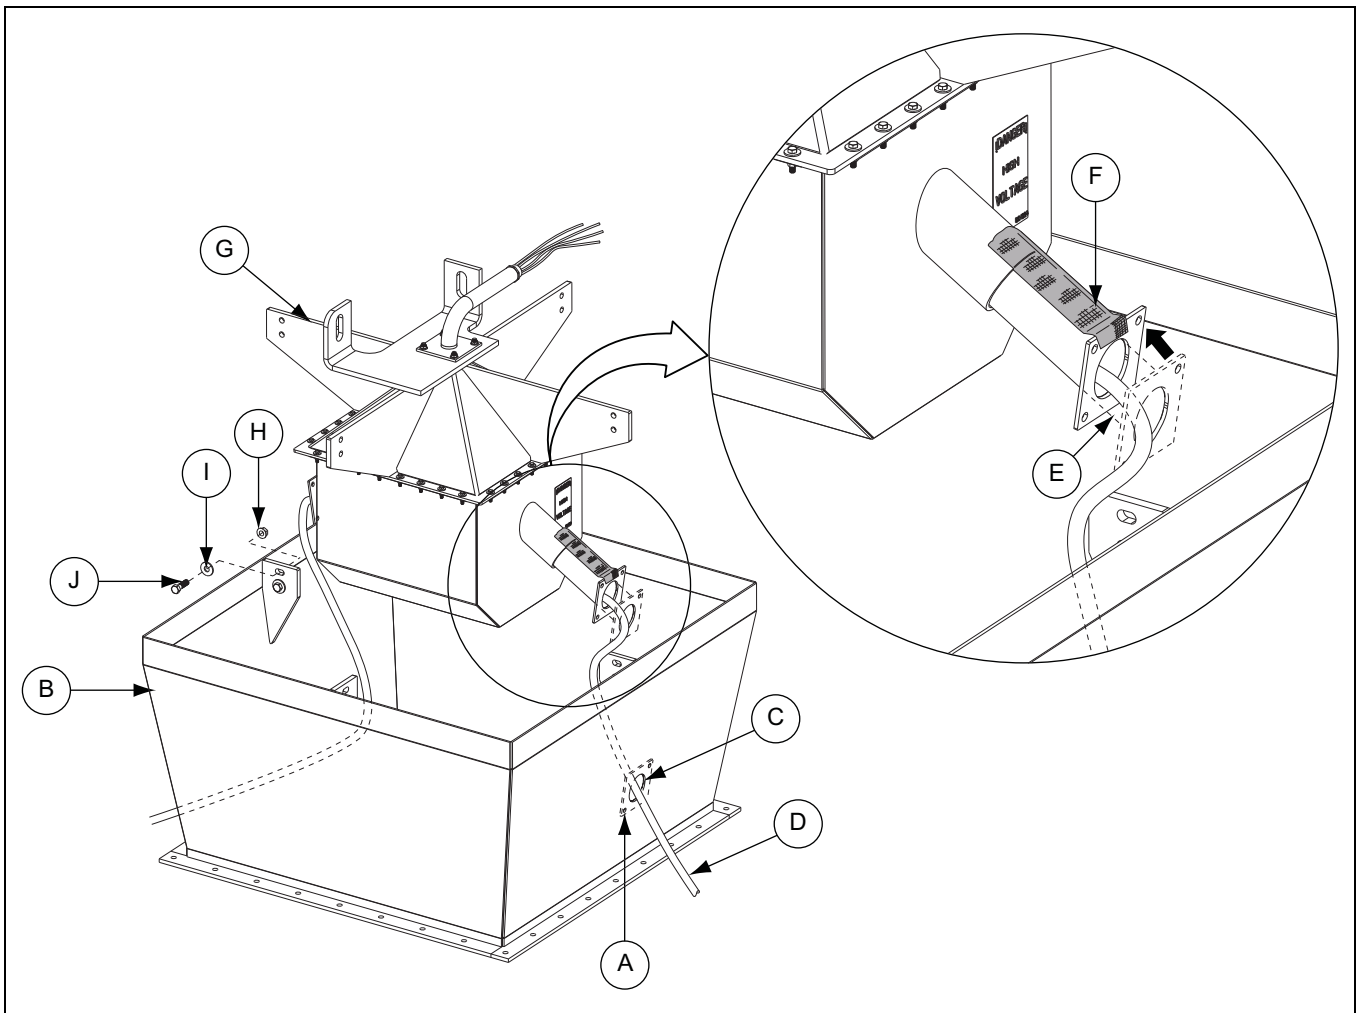

Figure 6D
- Determine the correct hole size needed for each lower flex conduit (D) and drill hole (C) from the center of the traced outline (A). (See Figure 6D.)